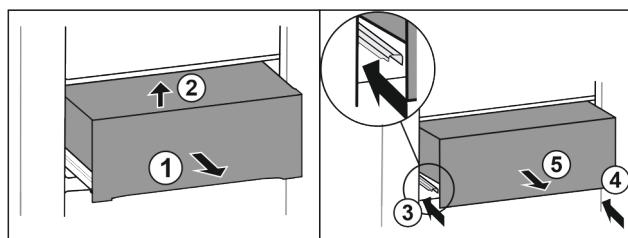

Fig. 35\*
- Pull out the drawer half-way Fig. 35 (1).\*
- Lift at the front Fig. 35 (2).\*
- Insert left rail Fig. 35 (3).\*
- Insert right rail Fig. 35 (4).\*
- Take out the drawer to the front Fig. 35 (5).\*